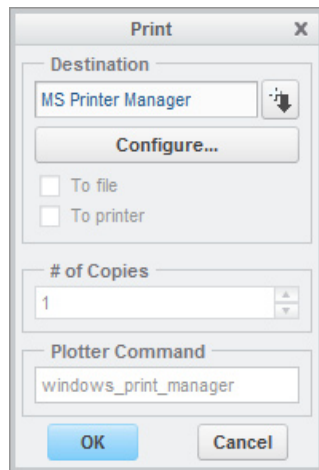

Figure 2-39 The **Print** dialog box
1. Choose the **Print** button from the **File>Print** menu or press CTRL+P; the **Print** dialog box is displayed, as shown in Figure 2-39.